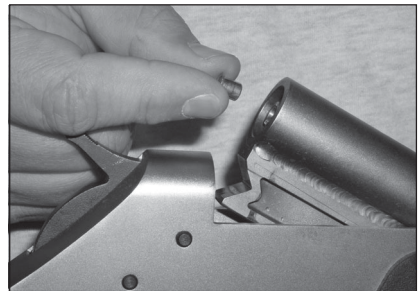

Figure 6
14. **WITH GUN POINTED IN SAFE DIRECTION** and hammer in the forward/rested position, place a #209 primer into the breech plug. **THE GUN IS NOW LOADED.** (See Figure 6).